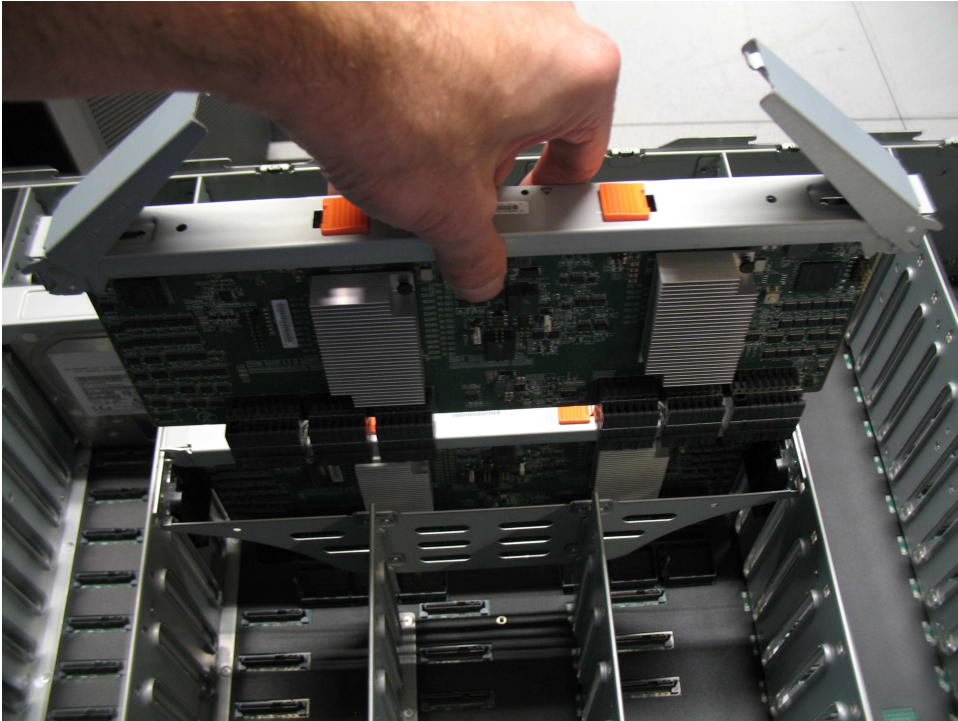

Figure 66. Remove the secondary expander module
4. Lift the secondary expander module carefully out of the enclosure, as shown in Figure 66 on page 211.